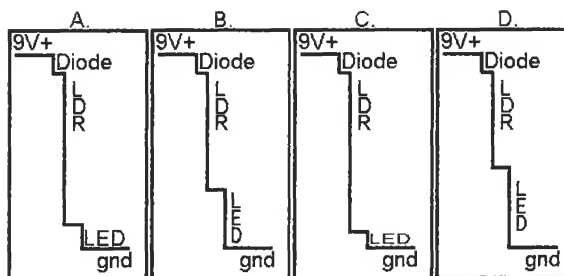

Figure L7-6
5. Consider the “waterfall” diagrams presented in Figure L7-6. From brightest to darkest conditions, what would be the best order of these diagrams regarding the LDR’s effect on the brightness of the LED?